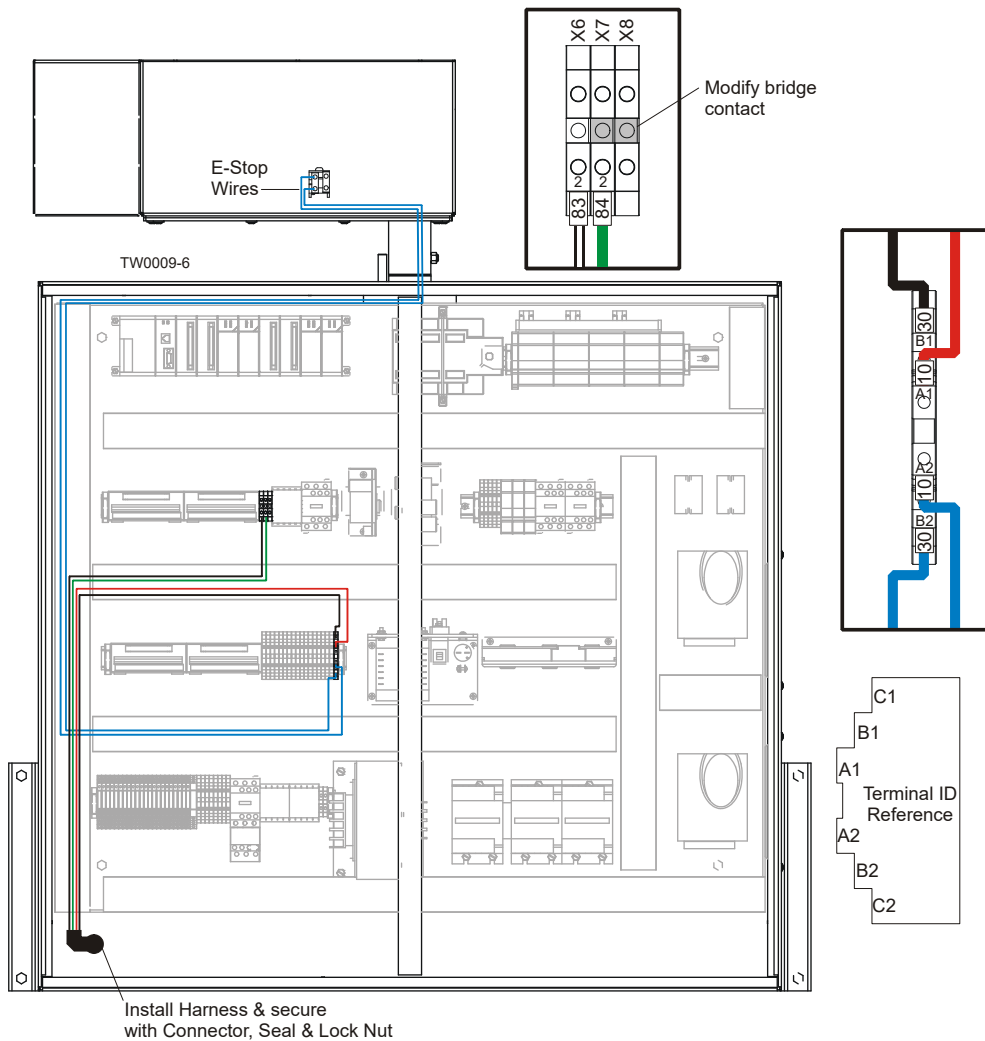

**FIG. 2-23**
**See Figure 2-23.** For an LT300 sawmill, remove the control panel, connect the switch contact to the E-Stop switch and route the wires down into the control cabinet. Replace the control panel.